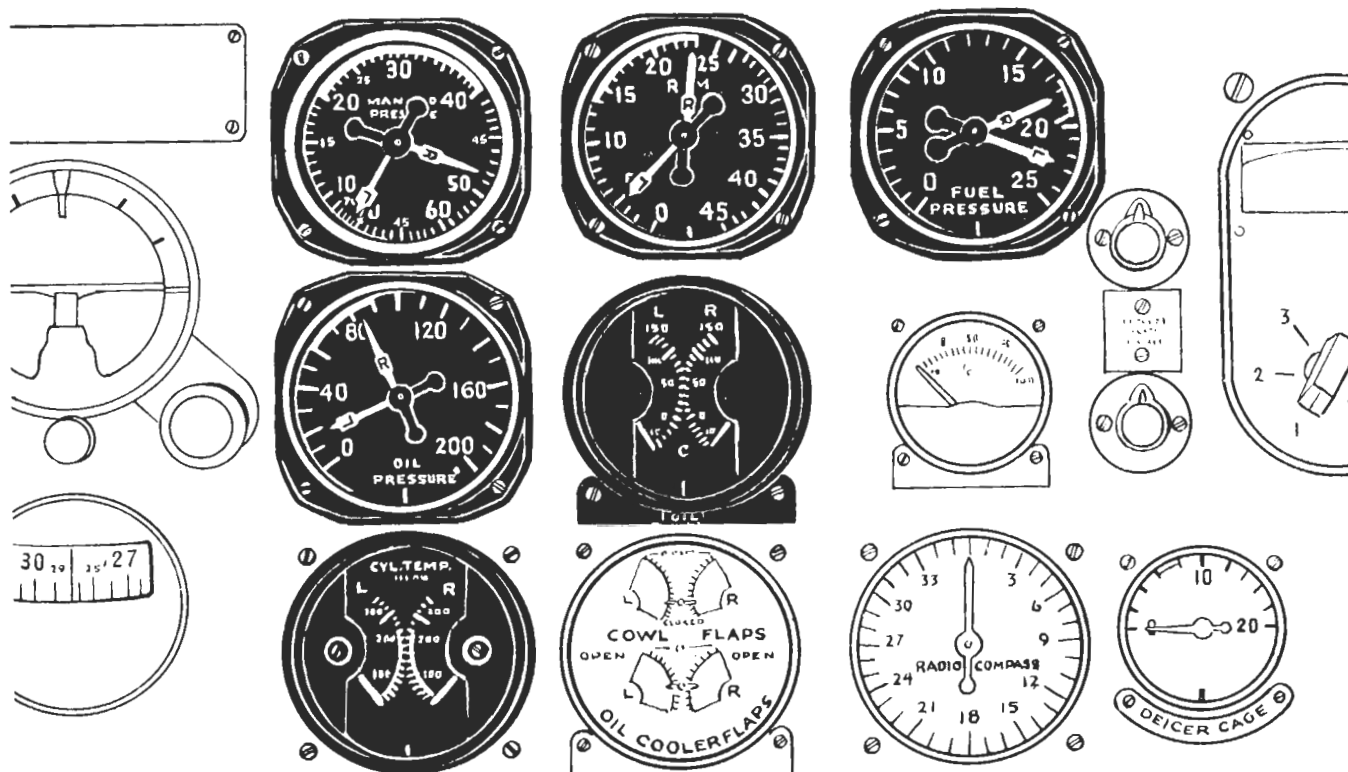

Figure 55—Temperature and Pressure Gages
engine starts release switches. When engine starts firing, move mixture control to the "AUTO RICH" position. Manipulate the throttle carefully and keep the engine down to 800 rpm for the first 30 seconds. If there is an indicated oil pressure, continue warm-up at 1000 rpm. Repeat procedure to start right-hand engine. (See figure 55.)
b. Run engines under 1000 rpm until cylinder head temperature reaches 120°C (248°F) and oil temperature reaches 50°C (122°F). (See figure 55.)